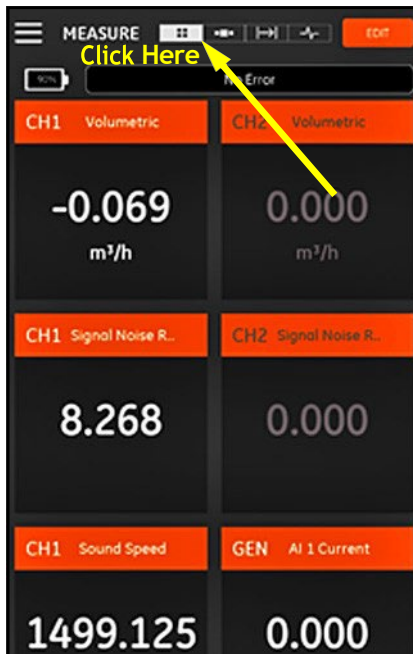

Figure 106: Multiple Measurement Screen
In Figure 106 below, note that CH1 has been turned On and CH2 has been turned Off in the PROGRAM menu. Also, no AI source is connected to the General channel, because the value is zero.
capability. An indication of this display type is the highlighted  icon at the top of the screen (see Figure 106 on page 100). Note the following:
- An Error Status box is located just above the measurement display section of the screen. If there are no system errors, No Error is displayed (see Figure 106 on page 100). However, if a system error does occur, the error information is displayed in this location with a flashing red background.